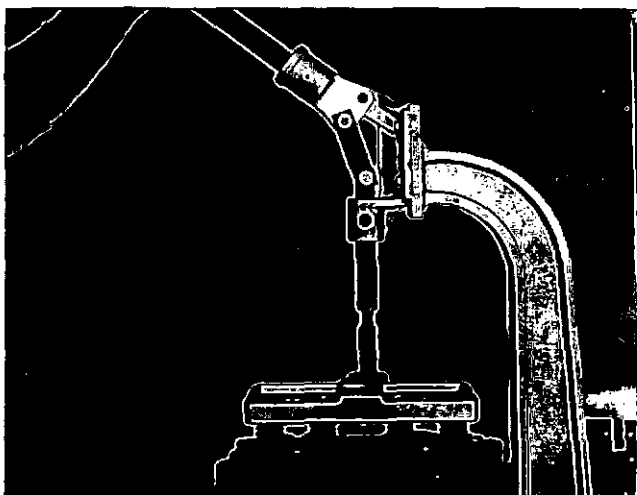

Fig. 2-2. Compress The Valve Springs.
- d. Pull down on the handle on the stand. Make sure the valve stems stay in the center of the holes, Fig. 2-2.